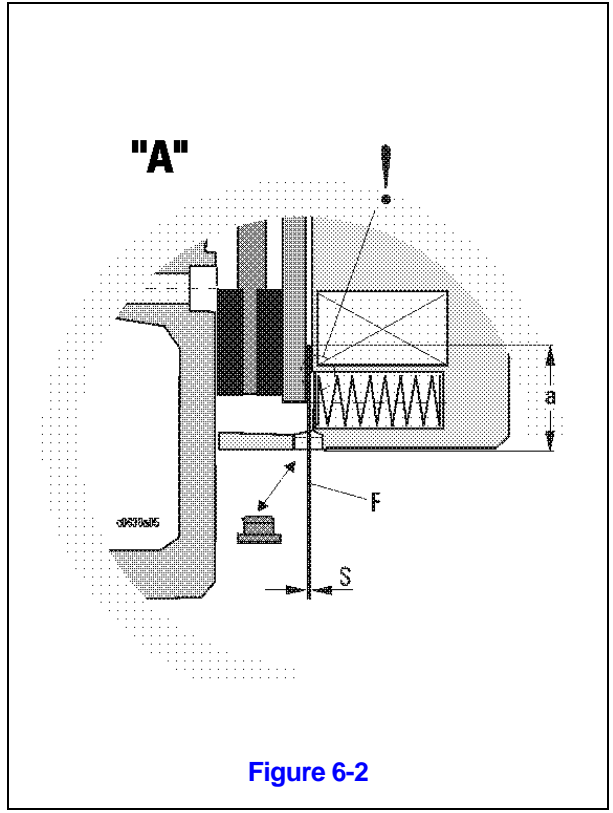

Figure 6-2
- 3) Measure air gap (S) with feeler gauge (F). When measuring, ensure that the feeler gauge is pushed in at least as far as depth "a" and does not catch on shoulder. See Table 5-8 for max. permissible air gap (S). See Figure 6-2.
- 4) The brake is not adjustable. If the max. permissible air gap (S) has been reached, the brake disc (brake rotor) must be replaced. See Figure 6-2.